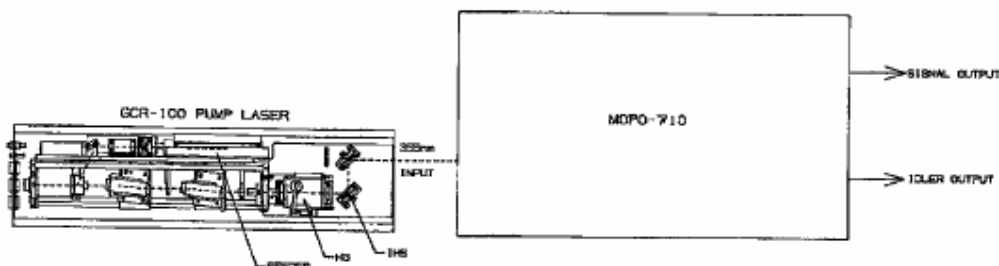

Figure 3-1: MOPO-710 system layout diagram configured with a GCR-100 Series pump laser
5. See figures 3-1 and 3-2 for orientation of MOPO with respect to GCR pump lasers.